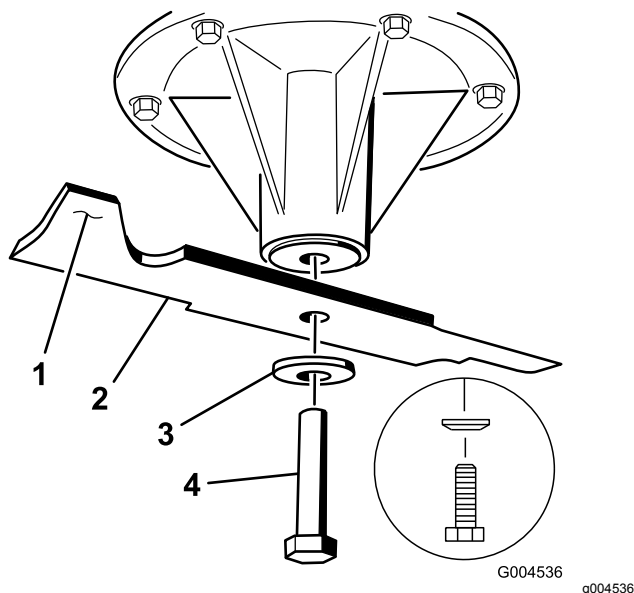

Figure 108
1. Install the blade onto the spindle shaft (Figure 108).
2. Install the spring disk and blade bolt (Figure 108).